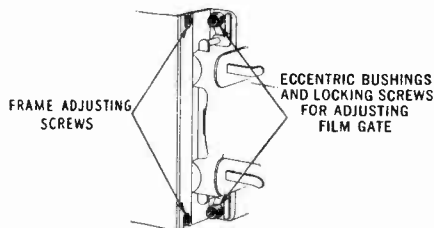

Fig. 12 - FILM GATE ADJUSTING SCREWS.
- (a) A piece of 16 mm. film is .006 inch thick. Split a small piece--4 inches long--so that it may be placed under the gate shoe. The film gate locking screws (Figure 12) should then be loosened and the eccentric roller turned until the strip of film may be easily slipped back and forth under the shoe. There should be no excessive play, also no binding.
(6) ADJUSTMENT FOR CORRECT FRAMING
- (a) Loosen the two screws (see Figure 12) and shift the gate up and then down until both frame lines of the picture are shown on the screen. Proper adjustment is about half way between these two extremes.